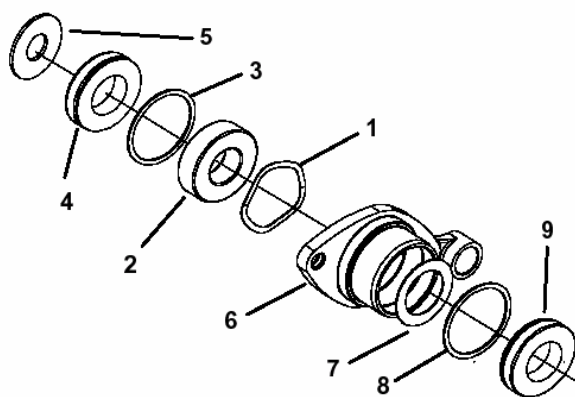

Figure 5
- Insert an oil seal into each side of the bearing housing positioning them flat side out (Fig. 5).